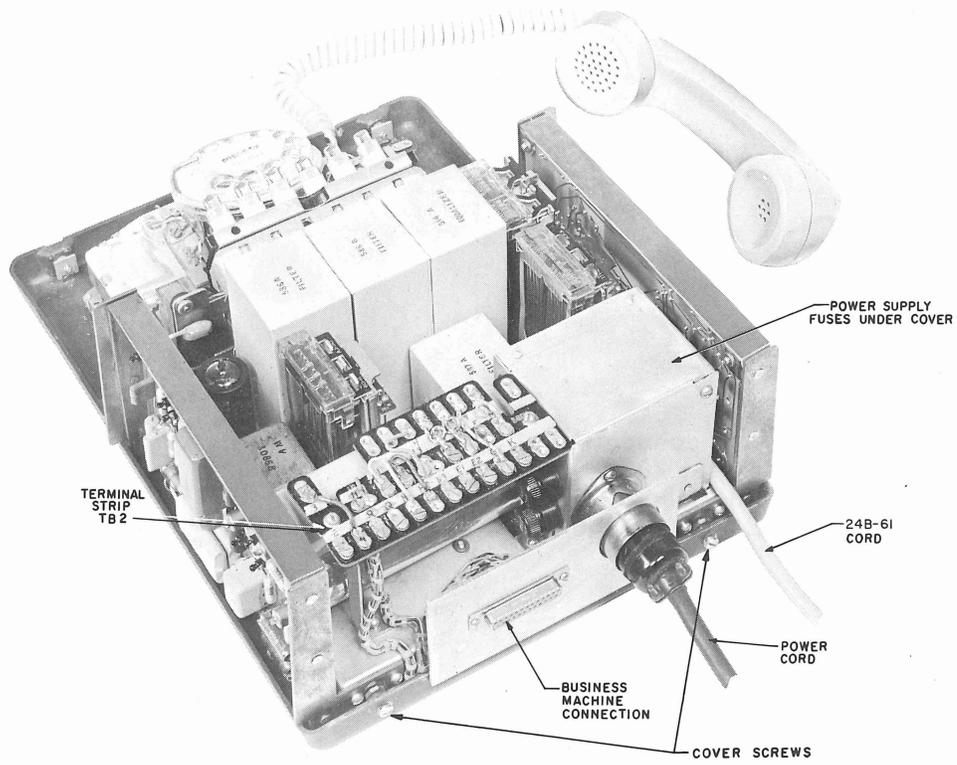

Fig. 1 - Data Set 202A, Rear View
2.01 See Fig. 1 and 2 for location of terminal boards and miscellaneous parts.